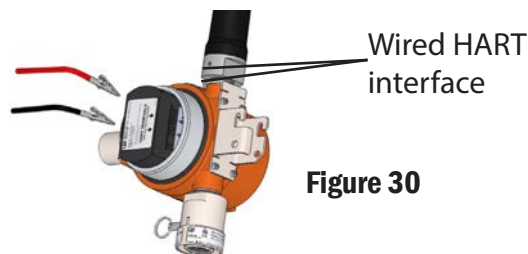

Figure 30
4. Connect wires from handheld HART communicator to HART terminals (see Figure 30).